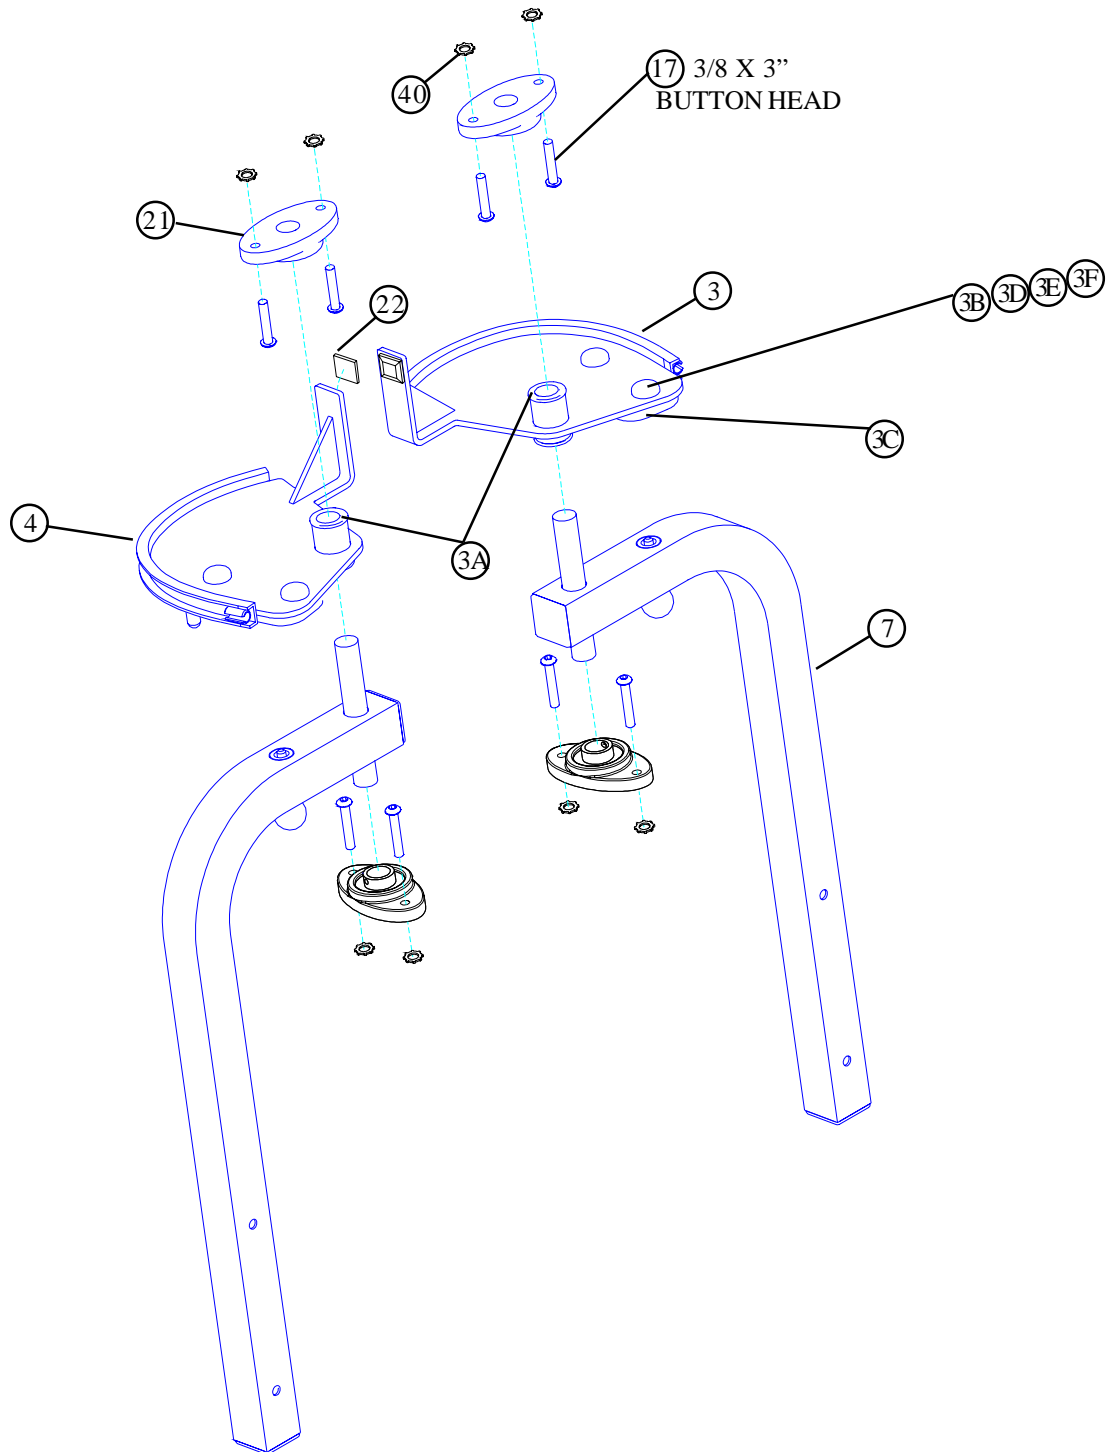

FIGURE 4
- Slide the RIGHT and LEFT CAM (3 & 4) and four PILLOW BLOCKS (21) over the shafts of the two PIVOT ARMS (7) as shown in FIGURE 4.
- Assemble two 1-1/4" SQ. RUBBER BUMPERS (22) to the RIGHT and LEFT CAM (3 & 4) as shown in FIGURE 4.
- Assemble eight 3/8 X 3" BUTTON HEAD CAP SCREWS (17) and eight STARLOCK WASHERS (40) to the the PILLOW BLOCKS (21) as shown in FIGURE 4